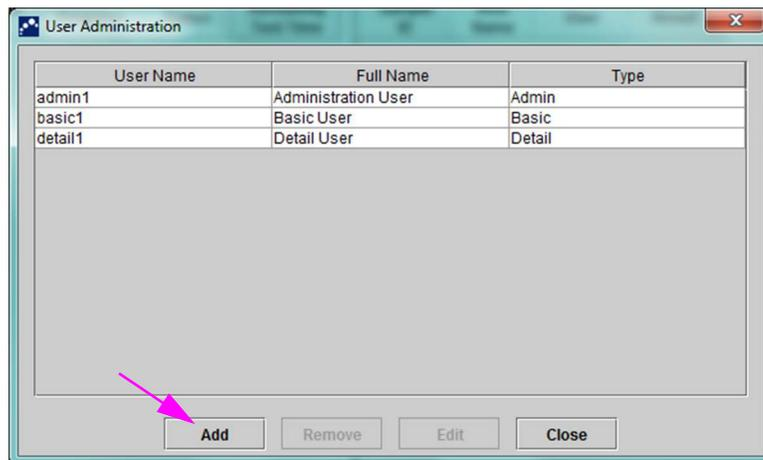

Figure 2-70. User Administration Dialog Box
2. In the GeneXpert Dx System window (see Figure 2-56), on the **Setup** menu, click **User Administration**. The User Administration dialog box appears. See Figure 2-70 if adding a local user or see Figure 2-71 if adding a remote LDAP user.
1. In the GeneXpert Dx System window (see Figure 2-56), on the Setup menu, click **User Administration**. The User Administration dialog box appears. See Figure 2-70.